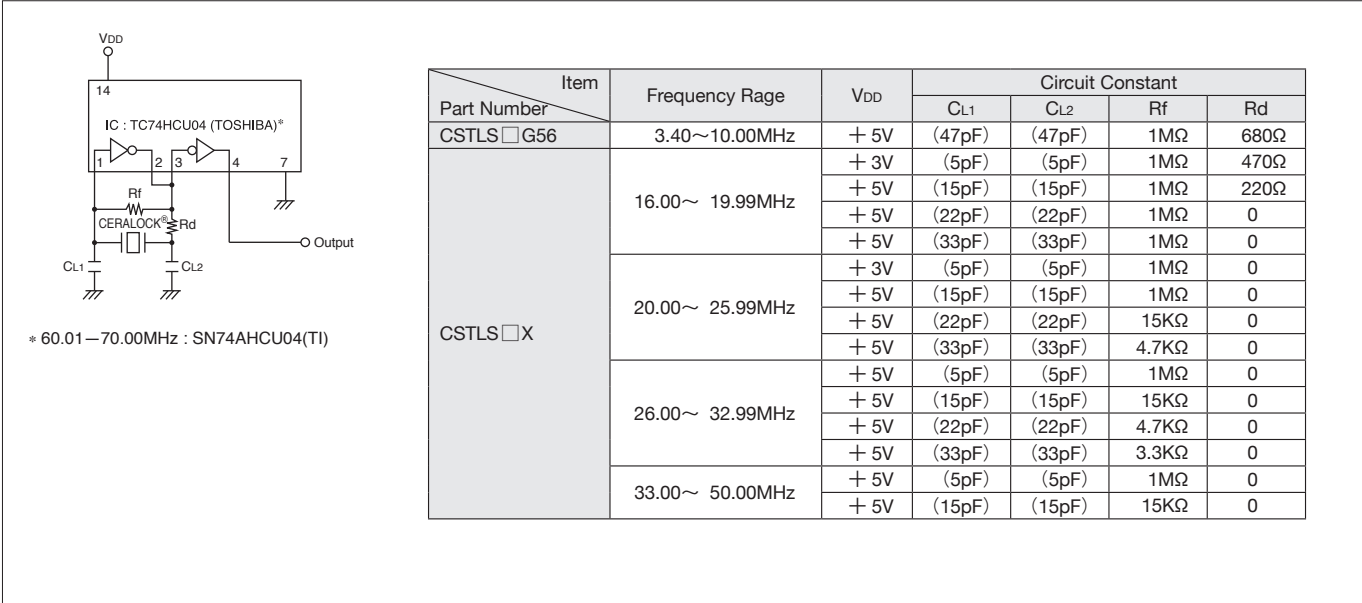

Fig. 4-3 H-CMOS Standard Circuit
Fig. 4-3 shows our standard H-CMOS circuit. Since H-CMOS has high gain, especially in the high frequency area, greater loading capacitor (CL) and damping resistor (Rd) should be employed to stabilize oscillation performance. As a standard circuit, we recommend Toshiba's TC74CU04, but any 74HCU04 inverter from other manufacturers may be used. The oscillation frequency for H-CMOS specifications is adjusted by the circuit in Fig. 4-3.